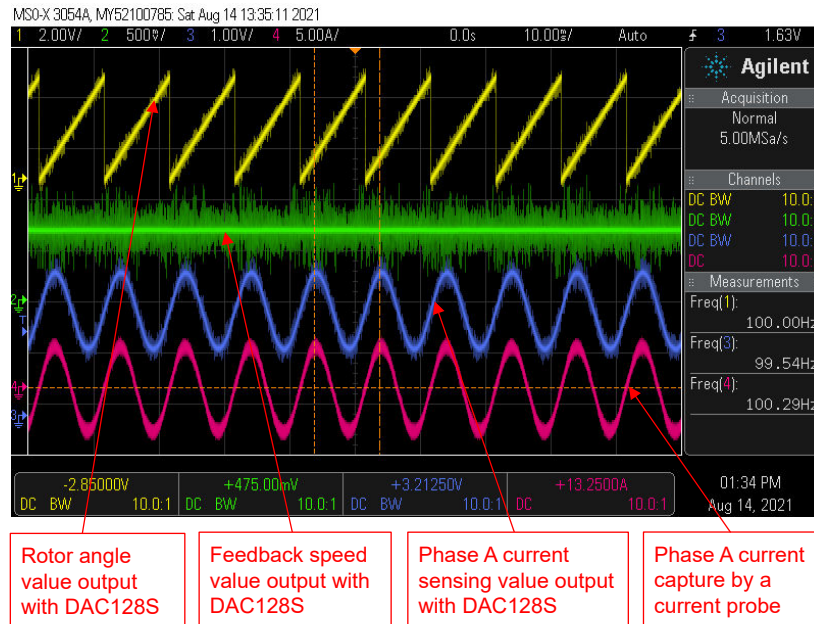

Figure 2-42. Build Level 4: Rotor Angle with FAST, Phase Current Waveforms at Forward Move
- d. Use PWM DAC or DAC128S module to display the monitoring variables as described in Section 2.4.2 or Section 2.4.3. The motor angle and current waveforms are shown in Figure 2-42.
Use DAC128S085EVM with an oscilloscope to monitor rotor angle of the motor from the FAST estimator, feedback speed of the motor, and a phase current of the motor as shown in Figure 2-42 when the motor is running at forward rotation by setting `motorVars_M1.speedRef_Hz` to a positive reference value.